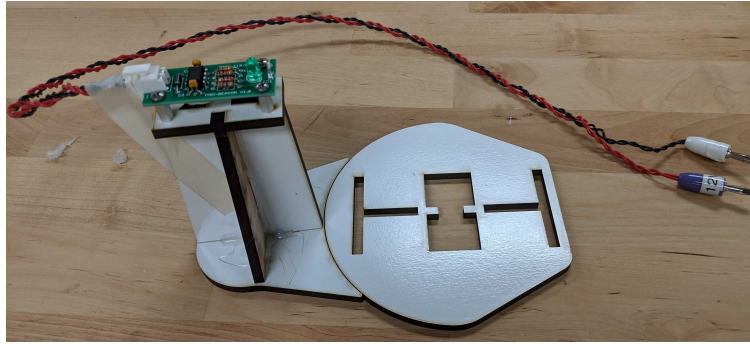

Figure 2: Minibeacon stand for testing sensors and control
Testing the IR sensor head can (and should) be done with the motor unpowered. You are going to power your minibeacon at 12V and using one of the provided stands and base additions (shown in Fig. 2), you will have a mechanical stop to ensure that the minibeacon is at a constant radius from the sensor head. Keeping a constant radius keeps the power level on your sensor constant.
Thus, the gains that you used on the command mode *will not work* when you are in sensor mode; they will need to be *much* larger. Set your proportional gain, K_p , to the range of $400,000 \rightarrow 500,000$ and see how it works. Use your beacon mount and base extension (Fig. 2) to keep the minibeacon well aimed and at a constant distance from the sensor head.
- Figure 2 courtesy of Maxwell Dunne